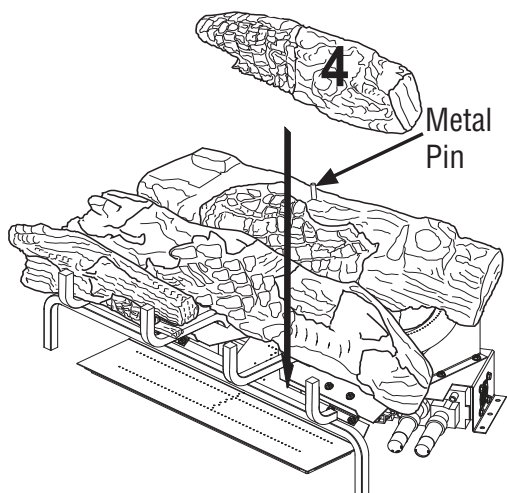

Figure 31- Installing Log # 4
4. Place the front right log (#4) onto the base assembly between the middle log and the grate. The back of the front right log will rest against the front of the middle log. The notch in the end of the front right log will fit around the grate bar. See **Figure 31, Page 19**.